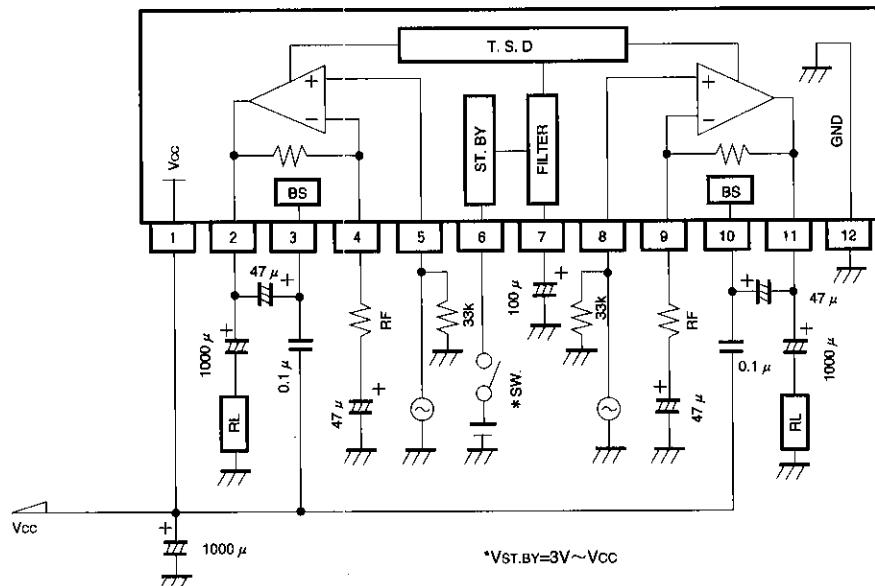

Fig. 1
10. Standard values for the DC voltages on each pin ($V_{cc} = 12V$, $T_a = 25^\circ C$, test circuit : Fig. 1)